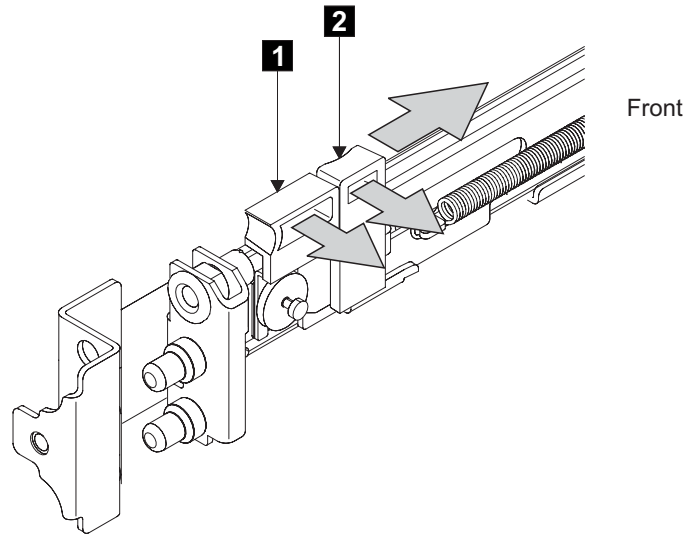

Figure 81. Opening the front latch-lock carrier assembly
3. Gently push the latch lock **2** (Figure 81 on page 209) away from the rail as you move the latch lever **1** towards the far end of the rail. The latch-lock carrier assembly slides against the spring tension.